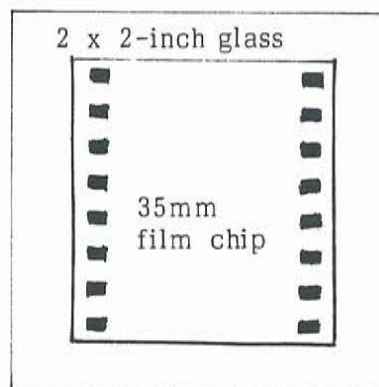

Figure 2. Film chip between pre-cleaned glass plates.
2. Position the film between two pieces of pre-cleaned glass. (Fig. 2) Use the Film Positioning Guide (see instructions below) if necessary to align the film.